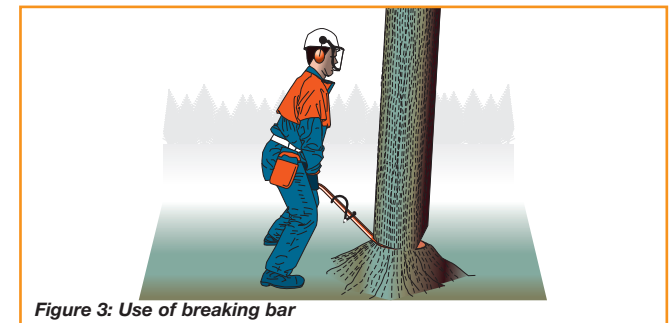

Figure 3: Use of breaking bar
- ❑ 19 Where necessary use the appropriate felling aids. When using a breaking bar to lever over the tree, keep the back straight using the legs to lift. Keep both hands on the lever (see *Figure 3*).